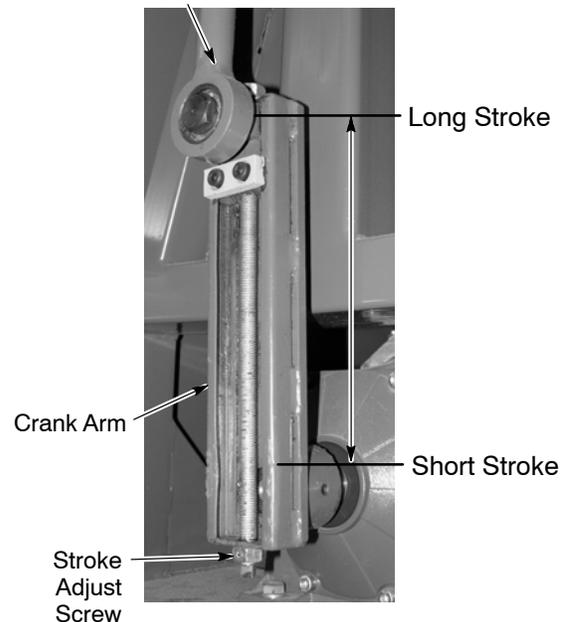

Figure 5 Stroke Adjustment
3. See Figure 5. With a 19-mm socket wrench, rotate the stroke adjust screw to move the connecting arm to the desired position on the crank arm.